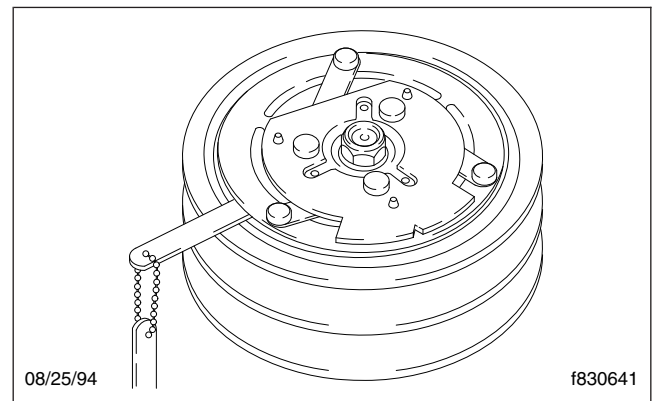

Fig. 1, Drive Plate Clearance Inspection
4. On a Sanden refrigerant compressor, use a feeler gauge to check that the drive plate clutch clearance is 0.016 to 0.031 inch (0.40 to 0.78 mm). See Fig. 1. If the drive plate clutch requires